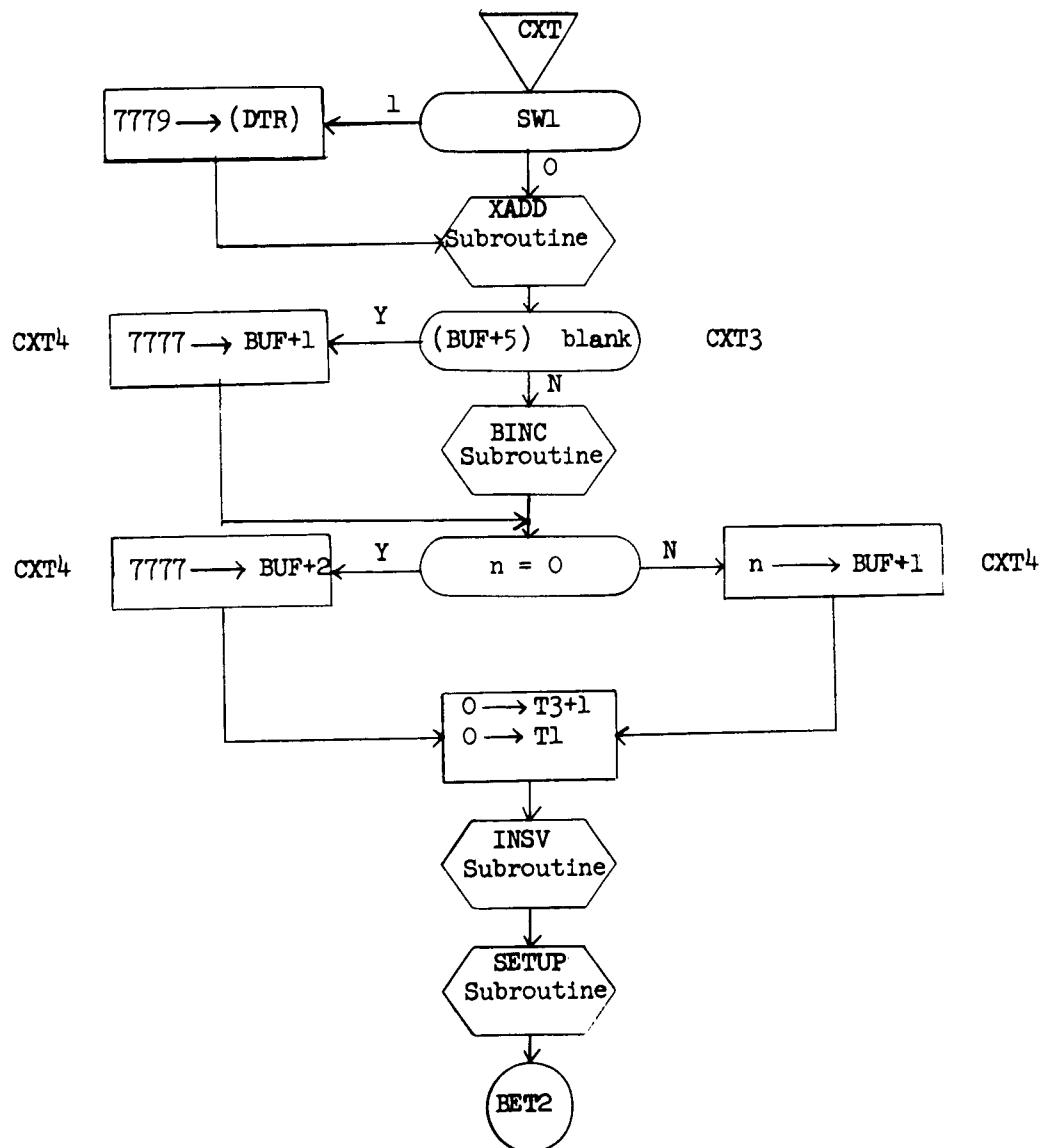

Figure 7.14 CXT
7.2.3.11 CTX TRAP COMMAND (Figure 7.14)